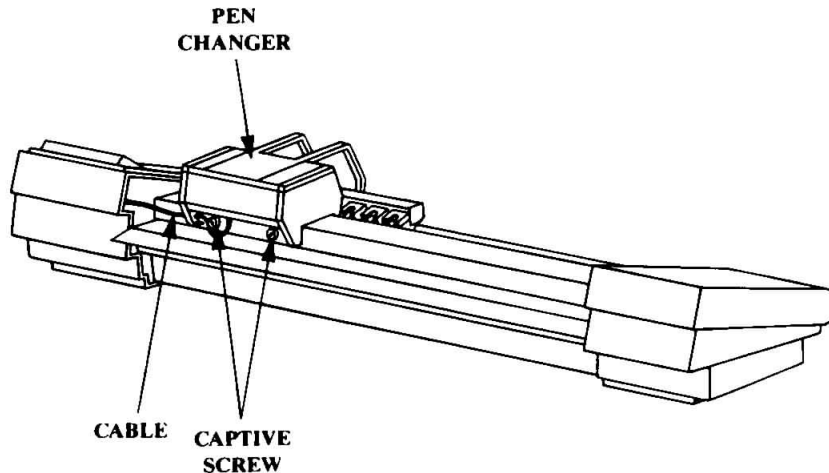

FIGURE 1-2. MP-80 PEN CHANGER INSTALLATION
- ☐ Place the MP-80 pen changer on top of the plotter as shown in Figure 1-2. Route the pen changer cable through the small groove in the pen changer base. Connect the cable to the socket on the bottom of the pen changer. Hand-tighten the two captive screws on the base of the pen changer to attach it to the plotter, then tighten them using a screwdriver. Be sure that the pen changer arm is lowered and latched into operating position.